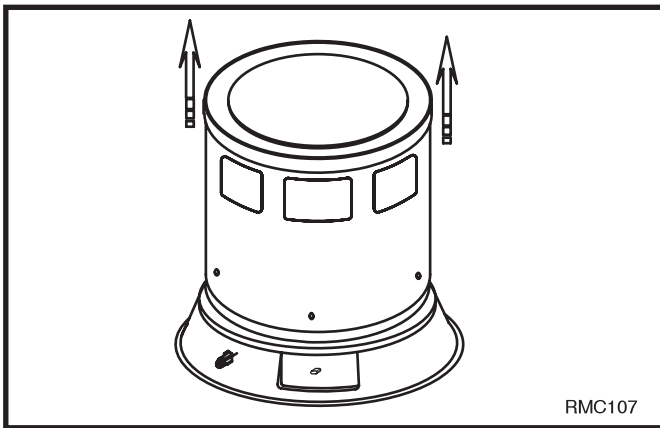

Fig. 2 Slide shell upper assembly up and off shell lower.
3. Slide shell upper assembly up and off shell lower. LPC80/200 (Fig. 2)